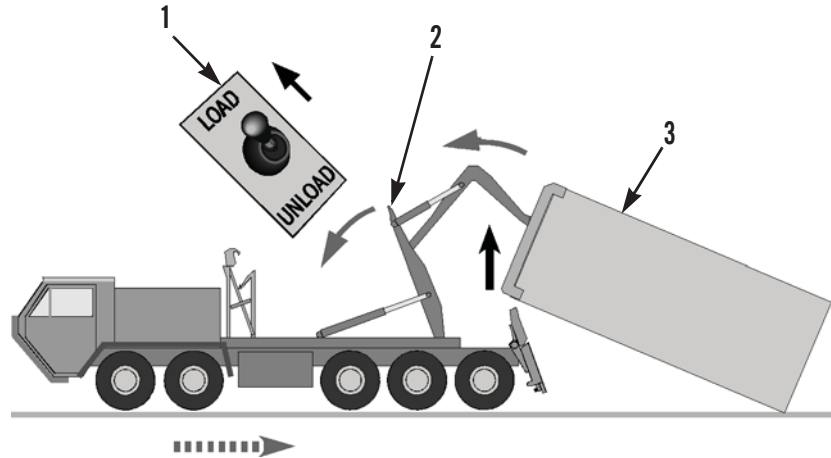

Figure 10. Middle Frame Pivots Forward.
3. Keeping joystick (Figure 10, Item 1) at LOAD, increase engine speed (maximum 1,500 rpm) (PLS: TM 9-2320-364-14&P, HEMTT: TM 9-2320-326-14&P). Middle frame (Figure 10, Item 2) pivots forward, further raising front of container (Figure 10, Item 3) and moving vehicle rearward.